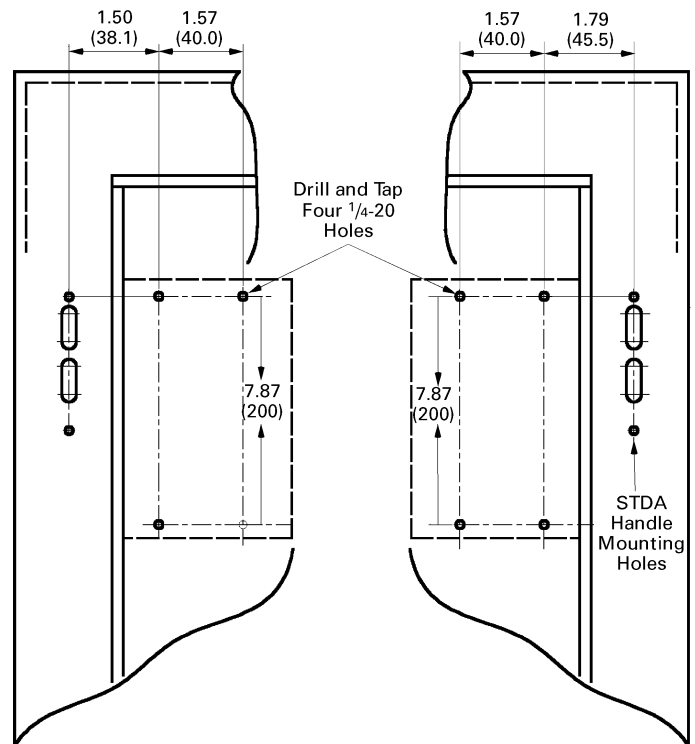

Figure 4. Mounting pattern for the operating mechanism.
3. Drill and tap four 1/4-20 holes in the enclosure subplate for mounting the operating mechanism, as shown in Figure 4. Dimensions for mounting for both left- and right-hand operation are also shown in Figure 4.